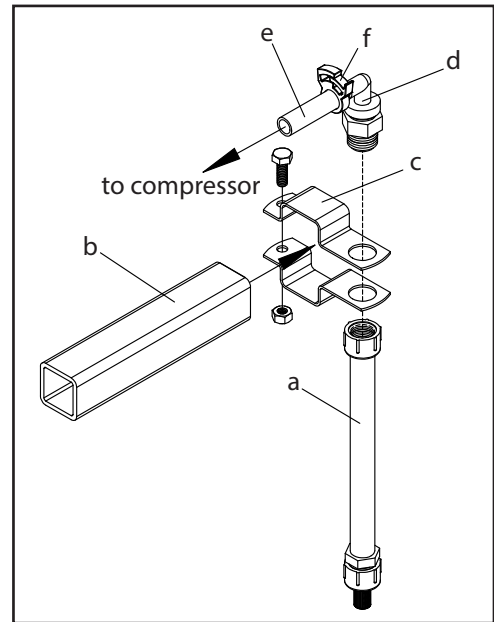

Figure 4: Discharge Tube Mounting
1. The discharge tubes (a) dispense the foam and should be mounted in the desired foaming position. Generally, they are mounted at the end of a sprayer boom (b) (Figure 4).
4. Route the discharge hoses (e) to the discharge tubes and attach the hose to the threaded barb elbow (d) (Figure 4).